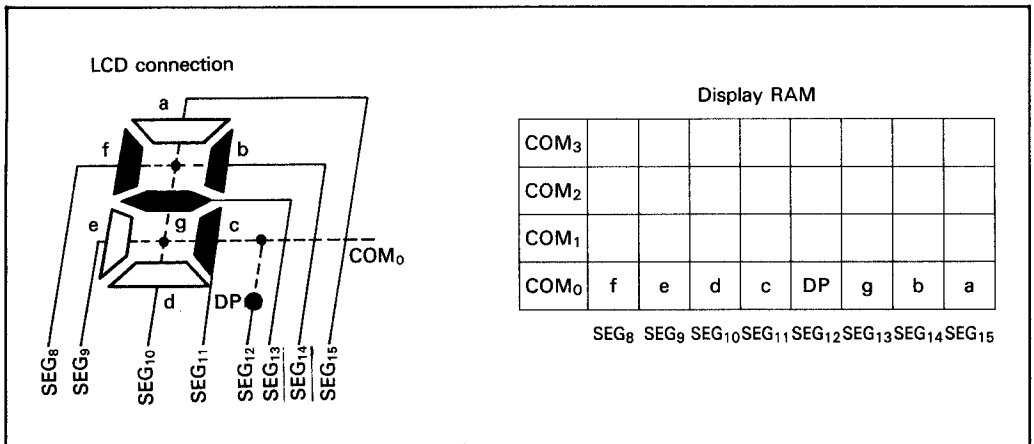

Figure 4. Example of Correspondence between LCD Connection and Display RAM (Static Drive, HD61604)
- (1) **Static Drive:** In the static drive, only the column of COM₀ of display RAM is output. COM₁ to COM₃ are not displayed (figure 4).